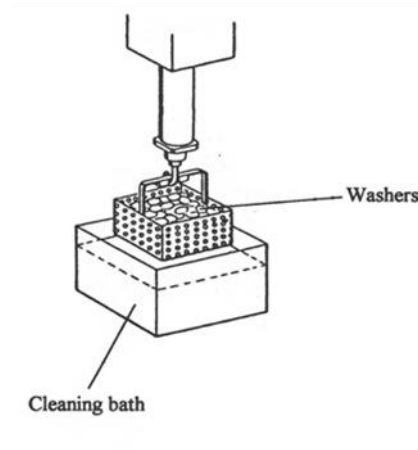

Figure 3
- b) A container of washers is to be dipped in and out of the cleaning bath by using a double acting cylinder. The start and stop for this continuous movement is to be achieved by actuating the 'START' and 'STOP' pushbuttons each. On actuating the 'STOP' pushbutton, the container should stop at the top. The speed for forward and retract strokes is controllable. (Figure 3)